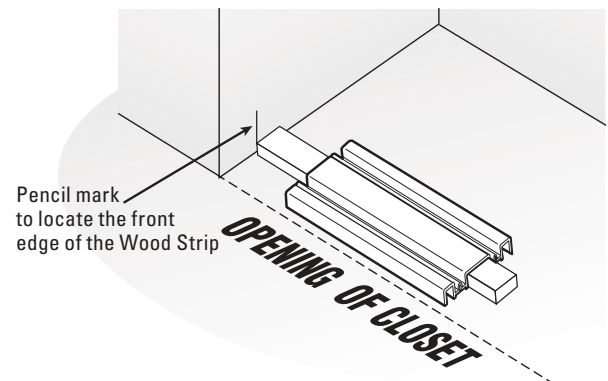

Figure 6
E. Place the front of the Wood Strip up to the pencil mark on the wall (See **Figure 6**). Do this on both sides. Install the Wood Strip.